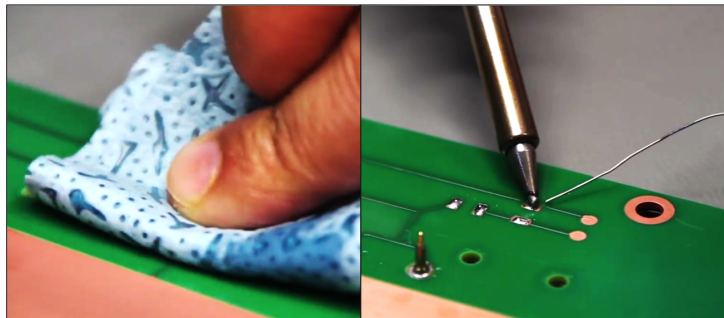

Figure 20: Preparation of the SMD pads.
Step 5: Similarly, clean the pads for the SMD components with tissue using ethanol (Fig. 20 left).
Step 6: Apply a small amount of soldering tin to "wet" the pads before mounting the SMD components (Fig. 20 right).